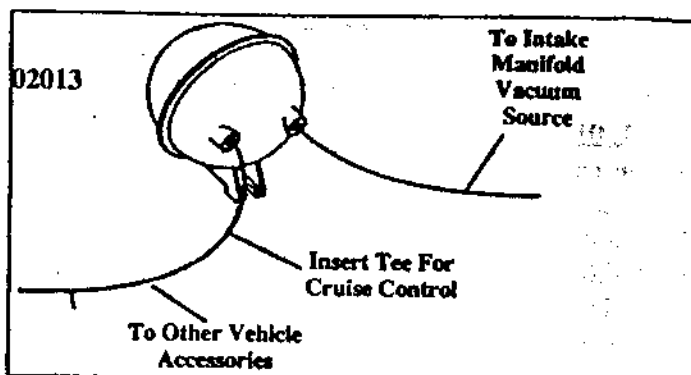

Figure 36
**Vacuum Reservoir:** Usually mounted on inner fender well or engine bulkhead. Maintains vacuum of other vehicle accessories. Figure 36.